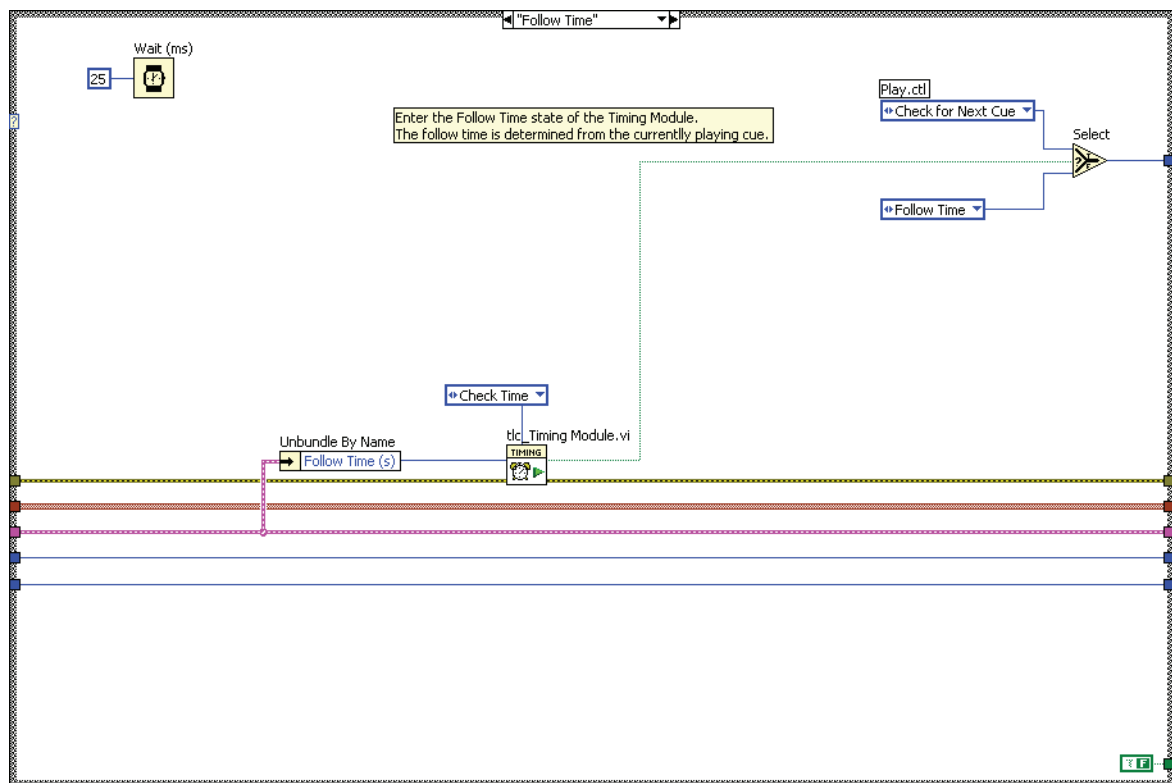

Figure 7-18. Play Module Follow Time Case
5. Modify the Follow Time state in the `tlc_Play` VI to use the `tlc_Timing` Module functional global variable to control the timing as shown in Figure 7-18. Use the following items: